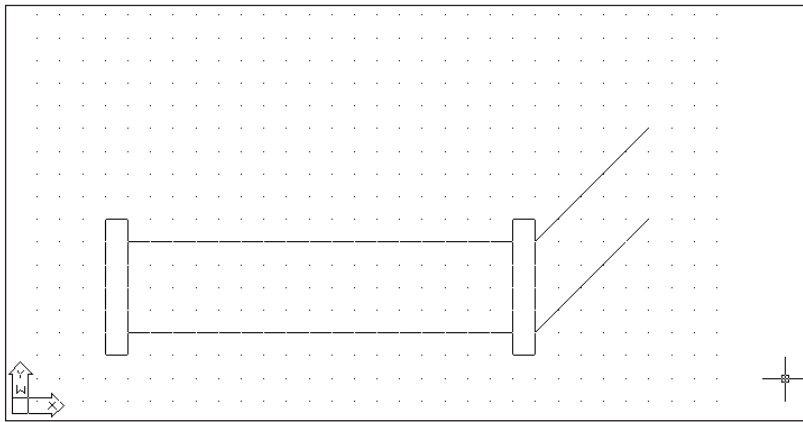

Figure 4-17: The completed pipe section
22. Save your drawing. Your drawing should look like Figure 4-17.